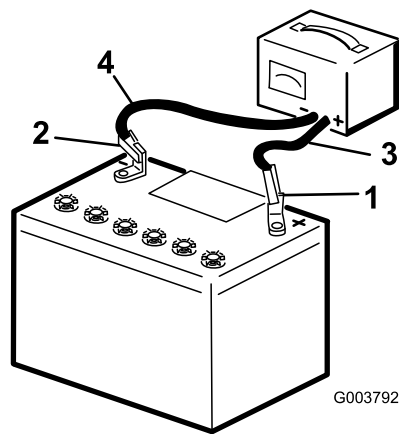

Figure 5
3. Connect a charger to the battery (Figure 5) and charge it for a minimum of 1 hour at 6 to 10 amps. Do not overcharge the battery.
4. When the battery is fully charged, unplug the charger from the electrical outlet, then disconnect the charger leads from the battery posts (Figure 5).